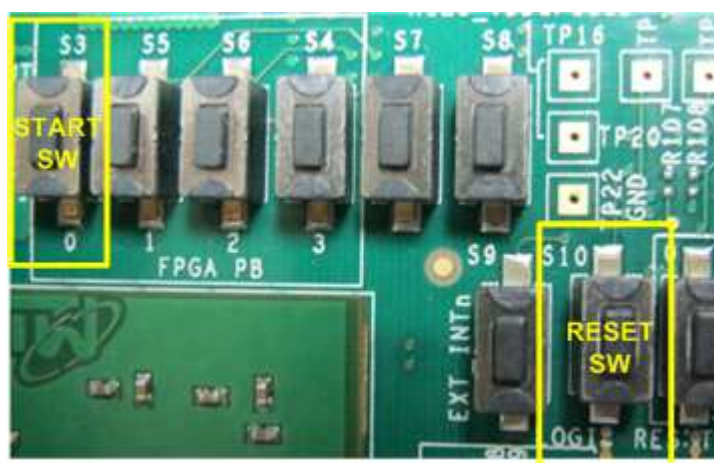

Figure 2-3 Start SW and Reset SW position
- Press StartSW at S3 position (as shown in Figure 2-3) to initialize parameter in system, and then LED0 will turn on, as shown in Figure 4-7 and Figure 4-8 following DIPSW bit0 setting.